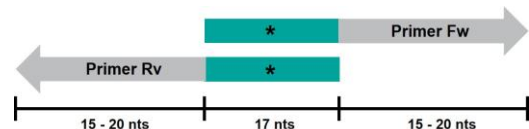

Figure 2. NZYSupreme Mutagenesis kit primer design scheme.
Primers should be complementary at the 5'-overhangs and must contain the desired mutation(s) in both sequences. Thus, the two primers should consist of two main parts (Figure 2): (1) a 5'-complementary region of 17 nucleotides (in green), containing the desired point-mutation(s) (indicated as * in Figure 2) in the middle of the sequence; (2) 15-20 non-overlapping nucleotides (in grey) at the 3'-terminus. In case the desired mutation is a codon select the most divergent codon possible.